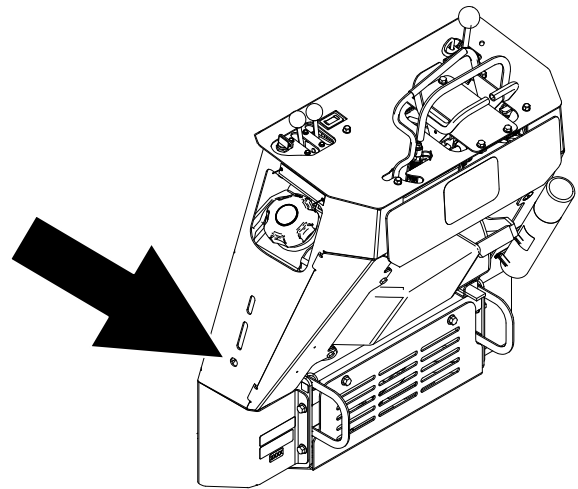

Figure 35
**Note:** You can use a ratchet extension in the hole shown in Figure 35 to engage an oil-filter wrench.